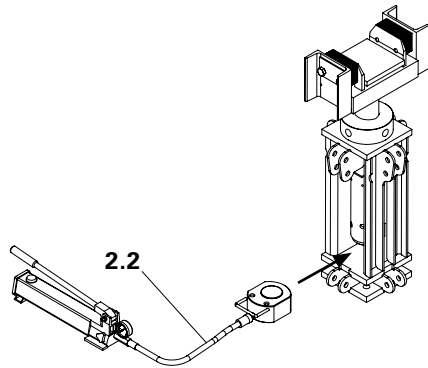

Fig. 16
1. Position hydraulic cylinder (2.1) in the Head Spindle VST 100. (Fig. 16 + 17)
- Hydraulic hose (2.2) is not to be kinked or bent too much. (Fig. 16)